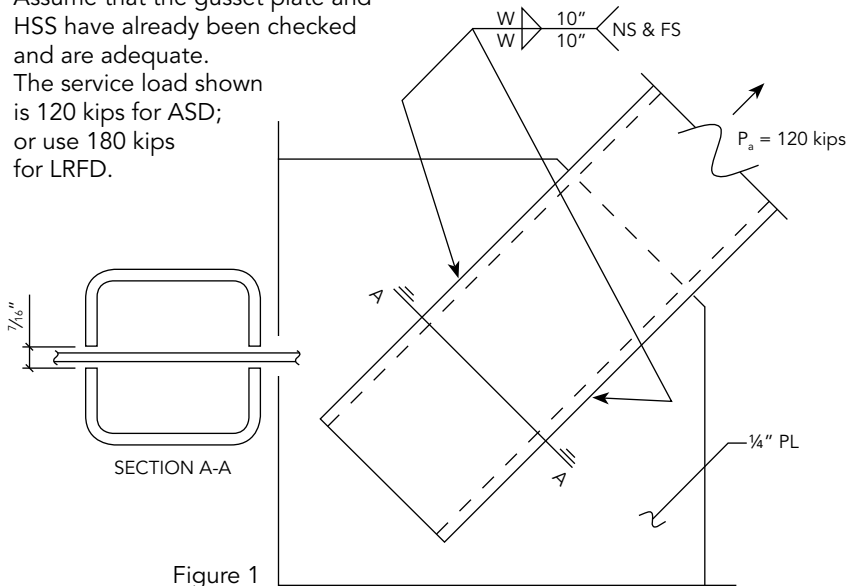

Figure 1
- 1 Select the fillet weld size, "w", for the detail shown in Figure 1. Assume that the gusset plate and HSS have already been checked and are adequate. The service load shown is 120 kips for ASD; or use 180 kips for LRFD.